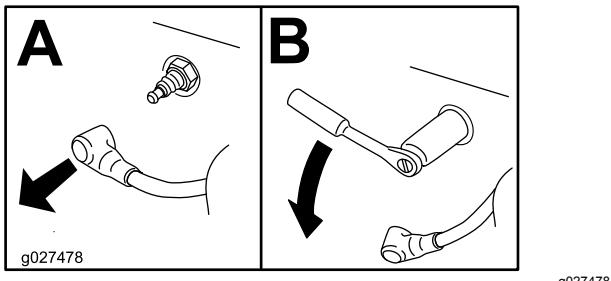

Figure 47
4. Remove the spark plug (Figure 47).